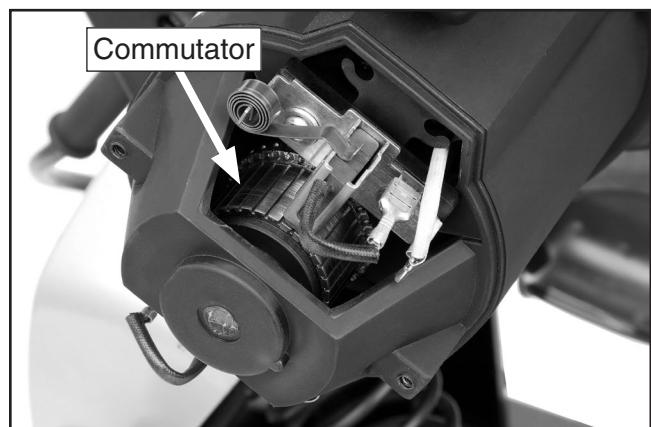

Figure 33. Commutator.
4. Inspect the commutator surface (**Figure 33**).
—If the commutator only has minor wear and black-colored carbon tracking (**Figure 33**), use a fine crocus cloth to polish the commutator where the brushes ride.